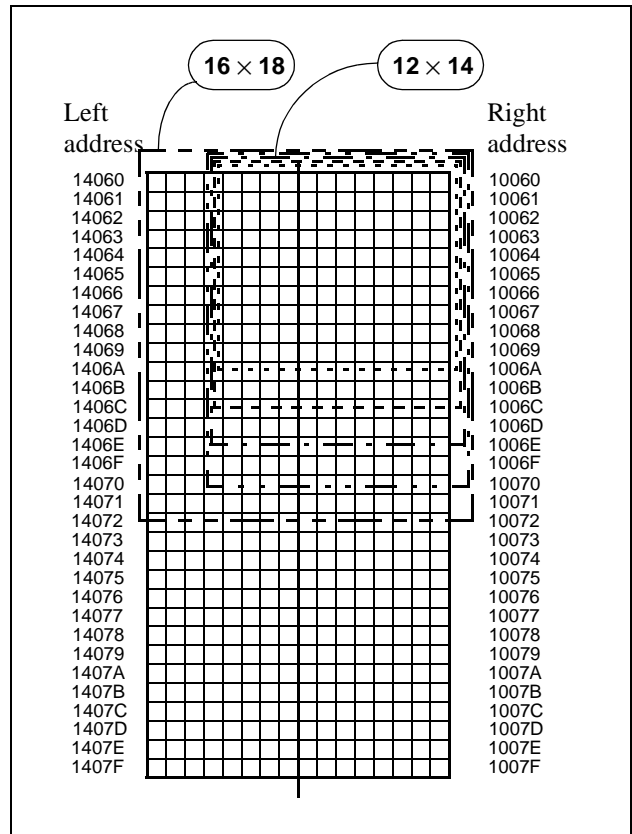

Figure 17-13 Character Dot Pattern
5. A character's address and dot position in font ROM is described in Figure 17-13.